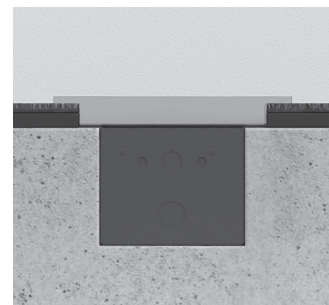

**Figure 11D: Modular Connection Points**
14. After wiring, use tape to cover and seal any access holes in junction box. See Figure 11D.
19. Remove grille assembly, tighten slide legs, and wire clamps. See Figure 11D.